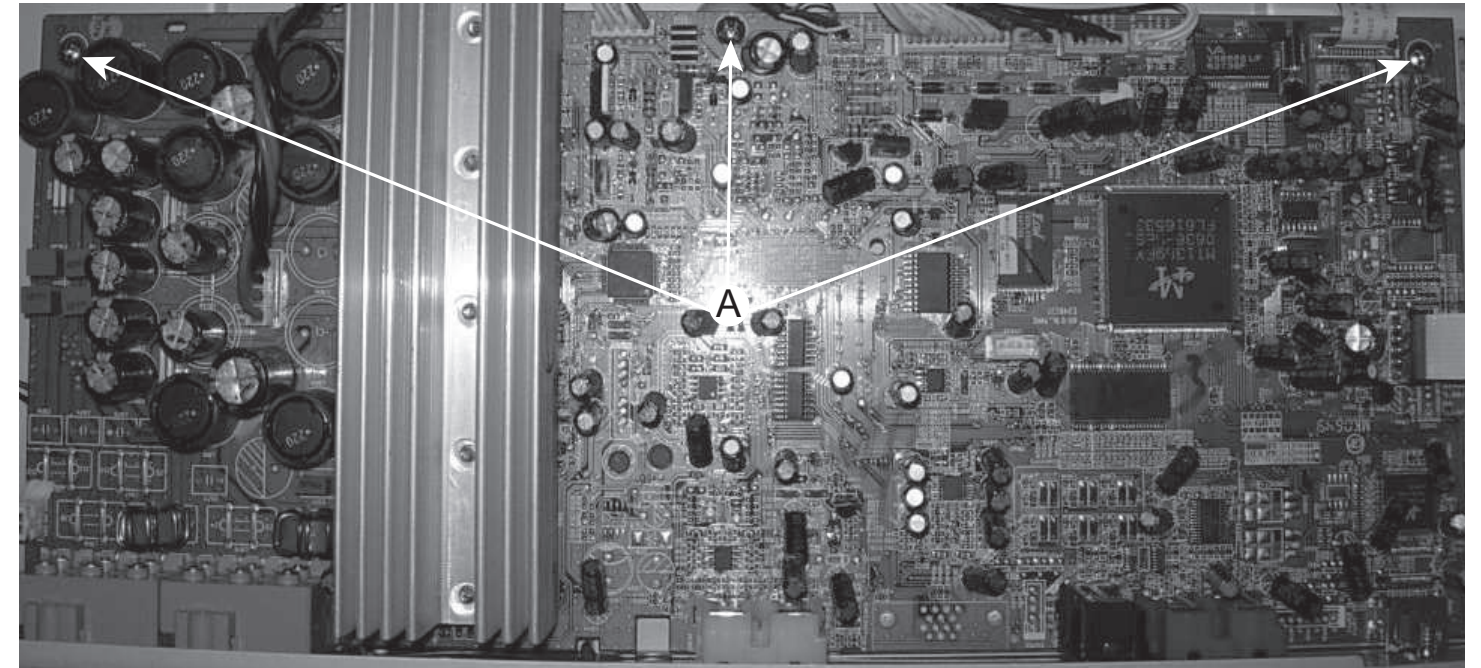

Figure 4
- 2) Loosen 3 screws " A " on the top of main board as shown in figure 4.